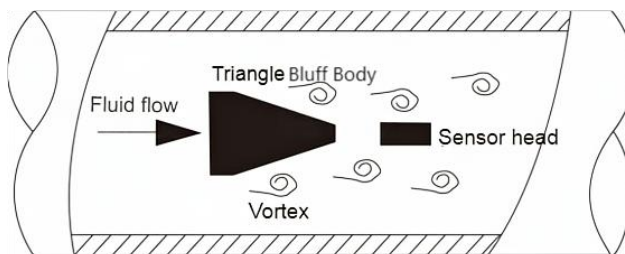

Fig.1 Working Principle of Vortex Flowmeter
As shown in Figure 1, a triangular bluff body (vortex shedder) is inserted vertically into the flowmeter body. When the fluid flows through this bluff body, alternating vortices with opposite rotational directions are shed regularly from both sides of the bluff body, forming a Kármán vortex street. The vortex shedding frequency (F) is directly proportional to the flow velocity (V). By detecting the number of vortices using a sensor, the fluid velocity can be determined, and, combined with the meter's inner diameter, the volumetric flow rate of the medium can be calculated.